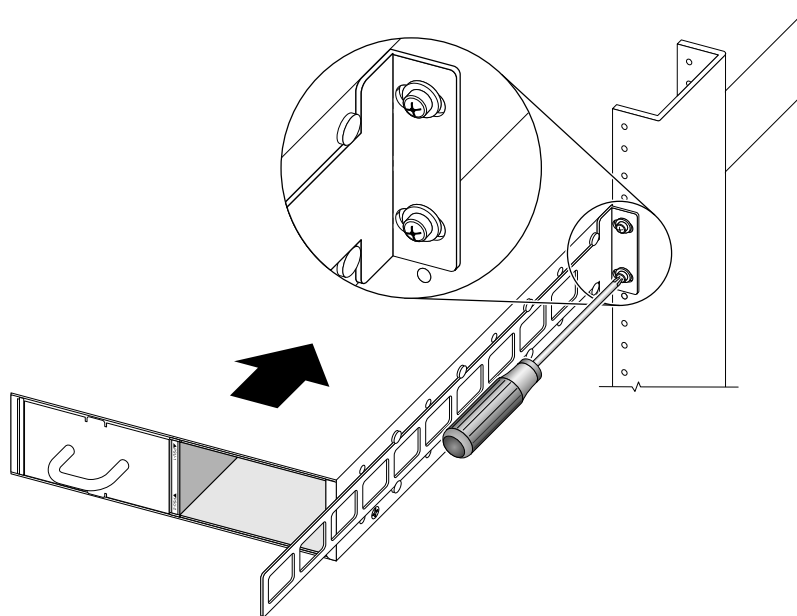

Figure 272: Fastening the Rear Mounting Brackets—Two-Post Rack
- 4 Push the switch forward as far as it will go, until the bracket support pegs are against the T of the mounting bracket (see Figure 272: Fastening the Rear Mounting Brackets—Two-Post Rack on page 300).